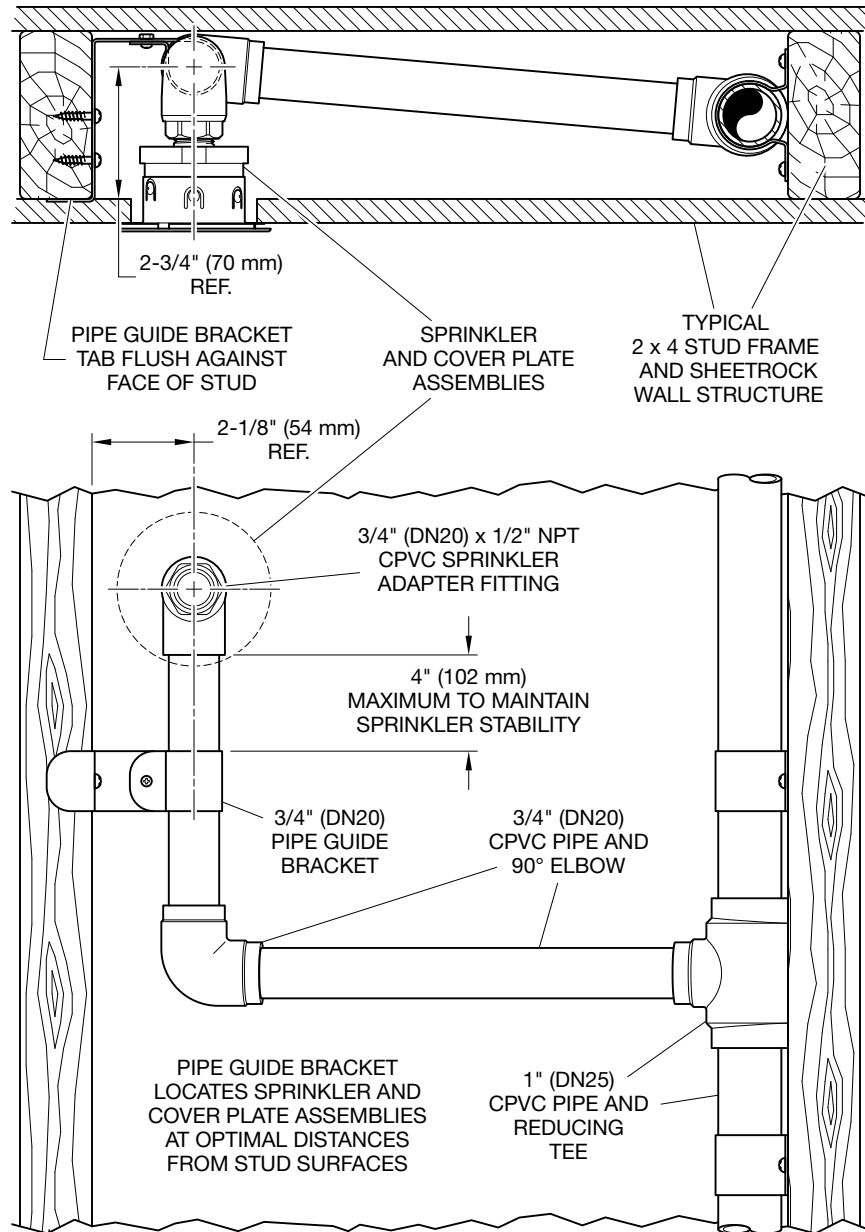

FIGURE 4
Step 1. To ensure that the sprinkler is located the correct distance from the face of the surface wall, use the provided pipe guide, included with each sprinkler TY2324, and attach it to the ¾ in. CPVC pipe and the 2 x 4 inside the wall, as shown in Figure 4. The sprinkler must only be installed with its centerline perpendicular to the back wall and parallel to the ceiling. Use a W-Type 37 Wrench for installation. The wrench contains an outer flat surface reference that correlates with the sprinkler deflector orientation. The word "UP" on the installation wrench is to face towards the ceiling to ensure proper alignment.